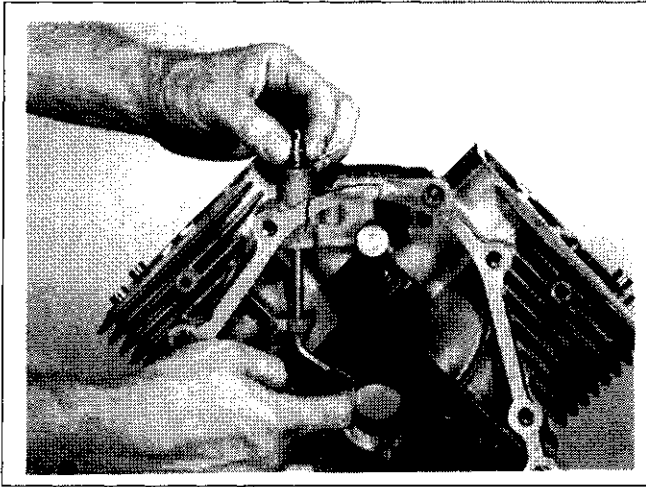

Figure 9-67. Pulling Governor Cross Shaft.
2. Remove the cross shaft through the inside of the crankcase. See Figure 9-67.